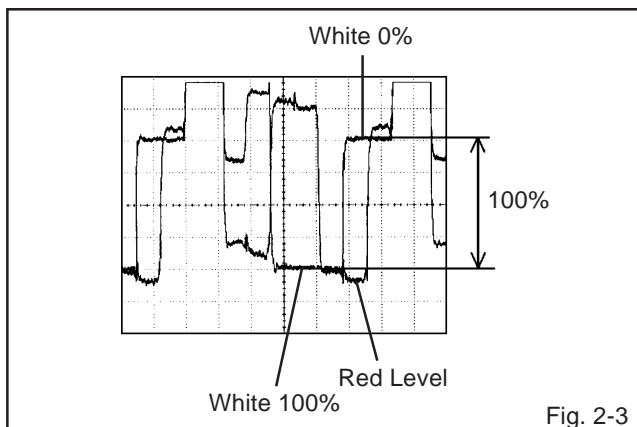

Fig. 2-3
6. Press the VOL. UP/DOWN button on the remote control until the red color level is adjusted to 110% of the white level. **(Refer to Fig. 2-3)**